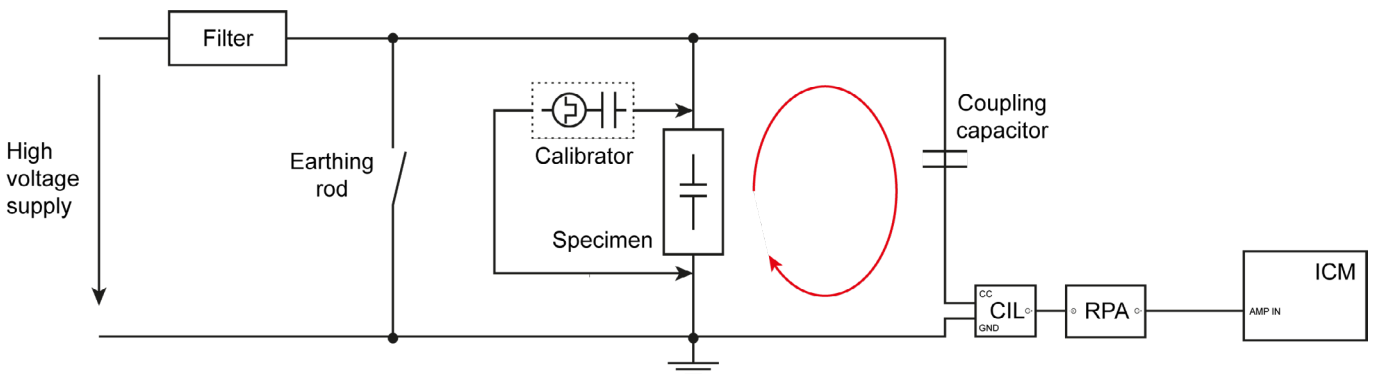
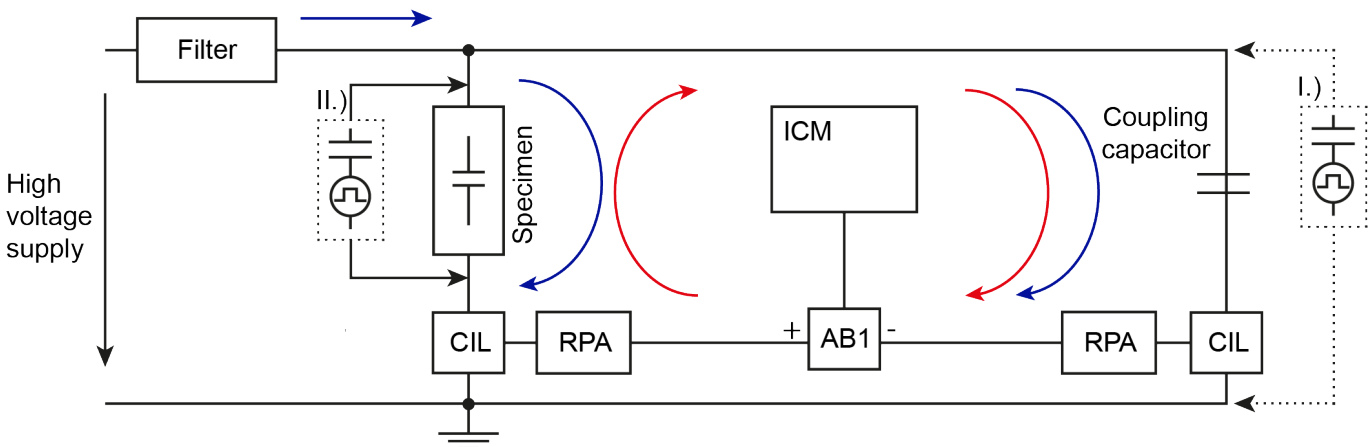
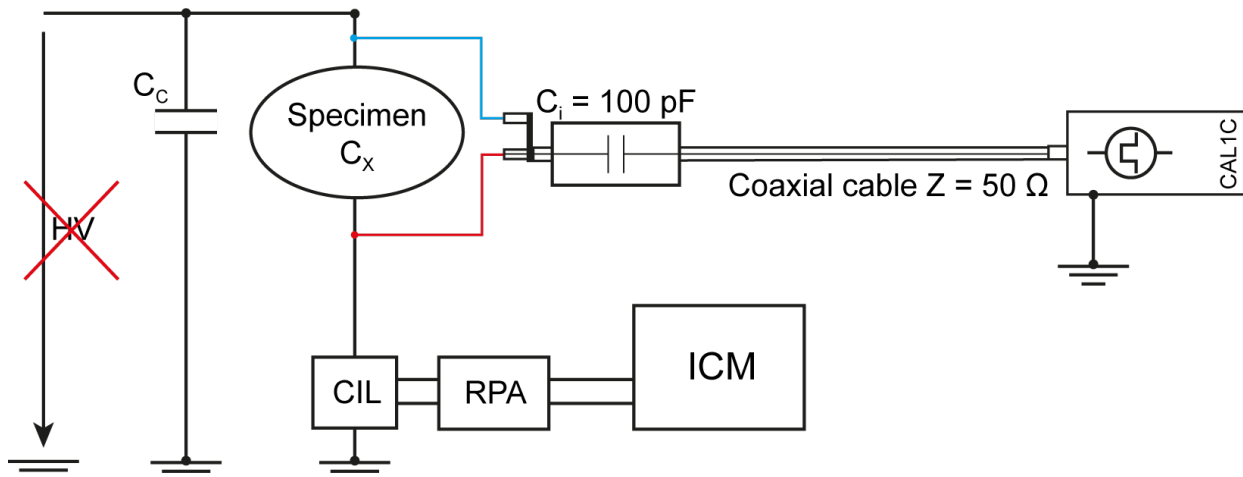

Figure 4.1: Standard test circuit, measuring impedance in series with the coupling capacitor
Figure 4.3: Balanced circuit arrangement, disturbance signals in blue, PD signals in red
Figure 4.6: Calibration with the external injection capacitor of the CAL1C
There are three basic circuits for the detection and measurement of PD from which most circuits can be derived. Figure 4.1 to Figure 4.3 show these circuits using a measuring impedance (CIL) and a coupling capacitance to couple out the PD signal. The measuring impedance consists of RC or RLC elements, which will transfer the PD pulses to the preamplifier (RPA). The coupling capacitor closes the signal path (red arrow) for the high frequent PD pulse and decouples the low frequent voltage supply.
The filter between the specimen and the high voltage (HV) supply serves to attenuate disturbances from the HV source. It also increases the sensitivity of measurements by blocking pulses from the specimen which would otherwise be bypassed through the HV source impedance. The earthing rod has to be removed during calibration, otherwise the calibration pulse is heavily attenuated for a setup according to Figure 4.1.
The standard test circuit is shown in Figure 4.1. Here the measuring impedance (CIL) is placed at the earth side of the coupling capacitor. Therefore, the specimen can be connected directly between the high voltage supply and the earth.
Figure 4.3 shows a balanced test circuit in which the instrument (ICM) is connected between two impedances (CIL). The low voltage side of the specimen and the coupling capacitor must both be isolated from earth. Their capacitances need not be equal but should preferably be of the same range. To adjust these two different bridge arms, the calibrator is connected to the HV side and earth (see I.) in Figure 4.3) The AB1 is then adjusted until a minimum reading of the ICM instrument is obtained. Afterwards, the system is calibrated by injecting charge pulses directly across the specimen (see II.) in Figure 4.3).
To use the CAL1C in a common test circuit (equivalent to Figure 4.1) without a high voltage injection capacitor (C_i), an external 100 pF capacitor is provided. This capacitor already includes the $50 \text{ }\Omega$ termination resistor at the input side and can be connected directly to the specimen (see Figure 4.6).
However, if a bushing tap is not provided, it might be possible to insulate the bushing flange from the tank. The ground connection is then realised by the measuring impedance. A further option is using an extra coupling capacitor with the measuring impedance connected in parallel to the HV connection as described in section 4.1, .Figure 4.1